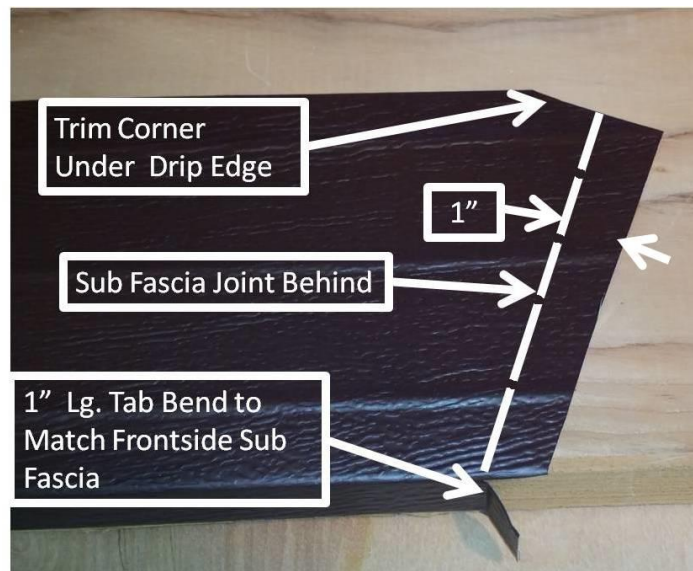

Figure 11-15. Gable Peak Back Side Fascia.
13. Cut the flange and trim the top corner as shown on Figure 11-15, and bend the tab to match the front-side gable angle. This small tab will cover the bottom of the joint and the top corner is trimmed to prevent any interference with the drip edge.